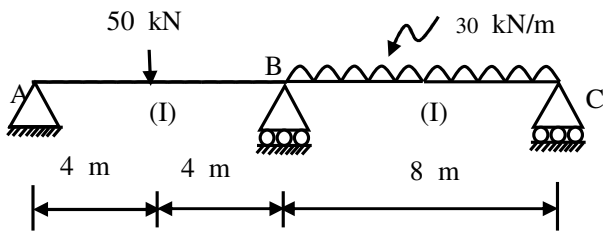

Fig.1 Q.1
- Q.1** Analyse the beam shown in fig.1 using stiffness member approach and plot SF & BM diagrams. **14**